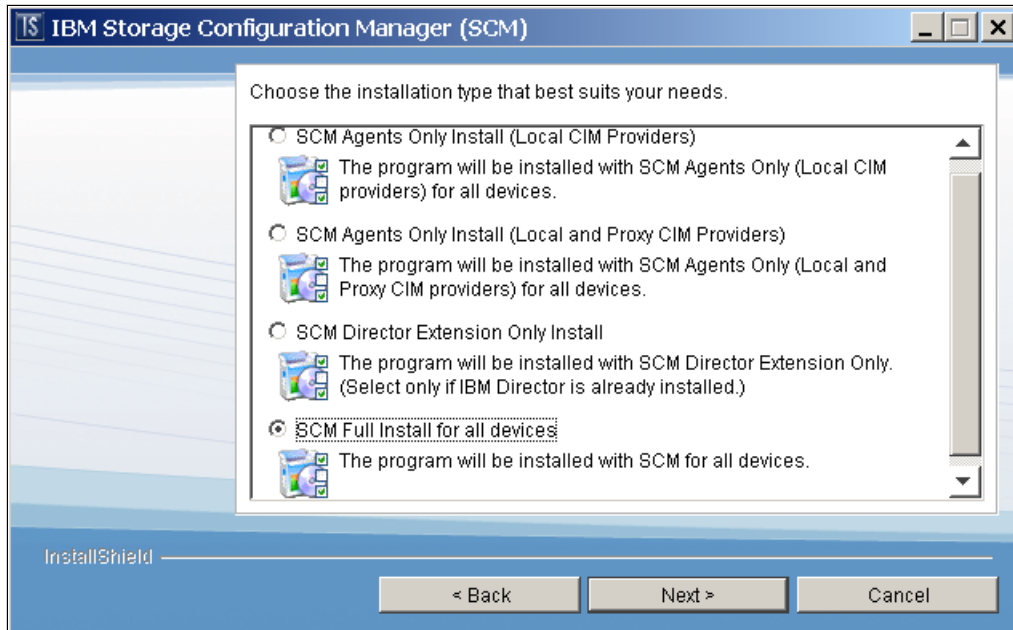

Figure 2-27 BladeCenter S installation option for the Non-RAID SAS Module
5. Select **SCM Full Install for all devices**, as shown in Figure 2-27 on page 49. Click **Next**.